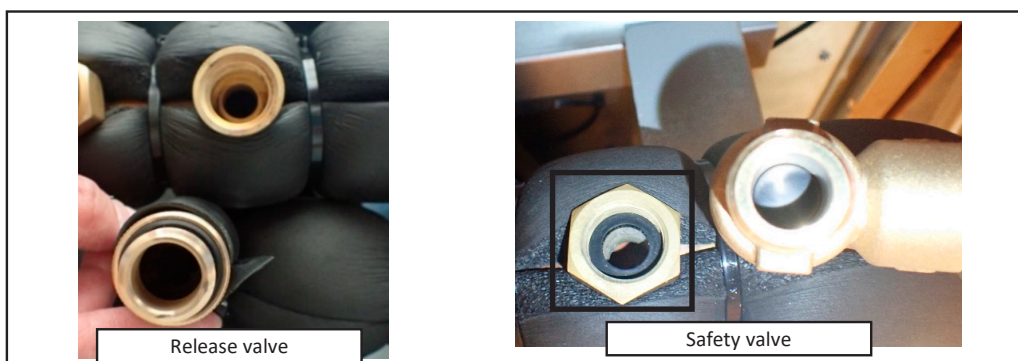

Fig16.Removing release valve and safety valve
(4) Release valve
- (a) Loosen the release valve and remove the release valve.(Fig.16)
(5) Safety valve
- (a) Loosen the nut under the safety valve.Remove the safety valve.(Fig.16)
※When replacing the safety valve, be sure to install the gasket at the valve connection.(□ mark, Fig.16)